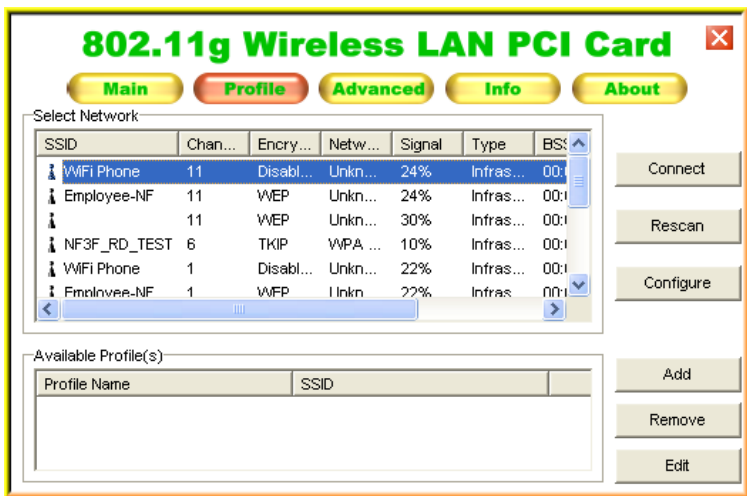

Figure 8.6: “Profile” configuration screen
5. The Configuration utility display the available wireless network list for your selection, please refer to Figure 8.6. User can configure the security data profile that required to connect with the selected wireless network by clicking “configure”.